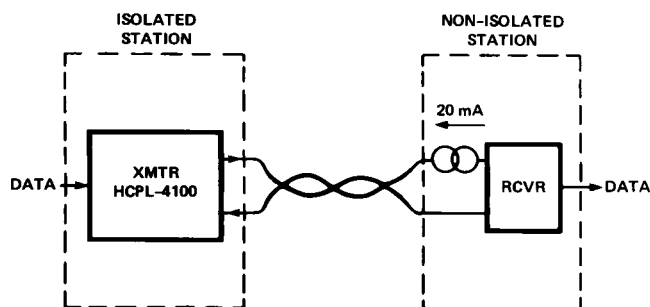

Figure 11. Simplex Point to Point Current Loop System Configuration.
- Derate linearly above a free-air temperature of 70°C at a rate of 2.3 mW/°C. A significant amount of power may be dissipated in the HCPL-4100 output circuit during the transition from the SPACE state to the MARK state when driving a data line or capacitive load ( $C_{OUT}$ ). The average power dissipation during the transition can be estimated from the following equation which assumes a linear discharge of a capacitive load:  $P = I_{SC} (V_{SO} + V_{MO})/2$ , where  $V_{SO}$  is the output voltage in the SPACE state. The duration of this transition can be estimated as  $t = C_{OUT} (V_{SO} - V_{MO})/I_{SC}$ . For typical applications driving twisted pair data lines with NRZ data as shown in Figure 11, the transition time will be less than 10% of one bit time.
The simplex configuration, whether point to point or multidrop, gives unidirectional data flow from transmitter to transmitter(s). This is the simplest configuration for use in long line length (two wire), moderate data rate, and low current source compliance level applications. A block diagram of simplex point to point arrangement is given in Figure 11 for the HCPL-4100 transmitter optocoupler.